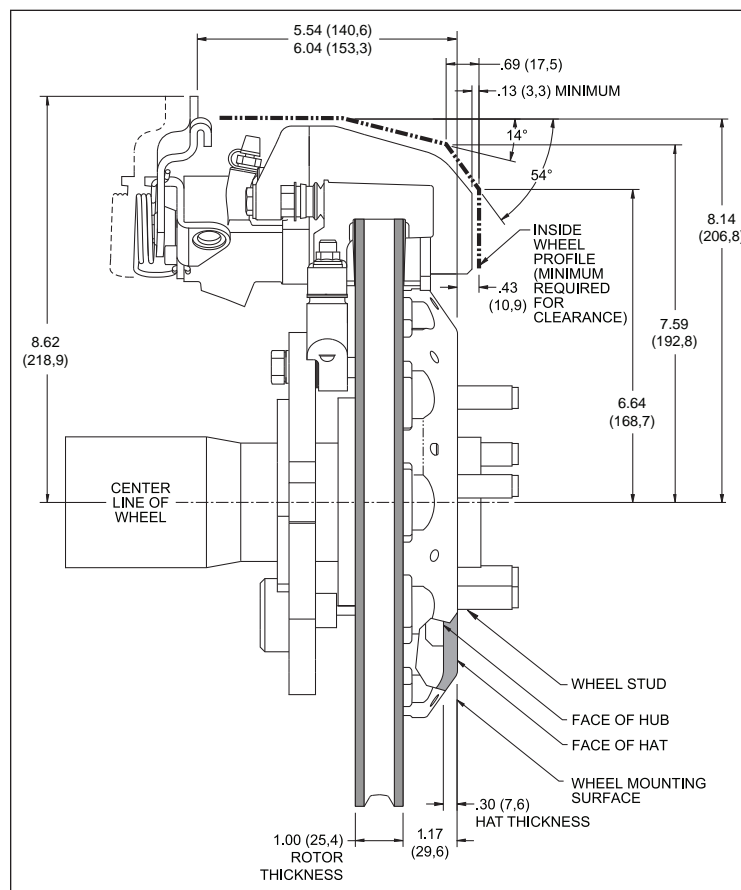

Figure 2. Wheel Clearance Diagram
- Review the wheel clearance diagram (figure 2, page 3) to verify that there is adequate clearance with the wheels you will be using with the installation.
• Verify your wheel clearance using Figure 2.